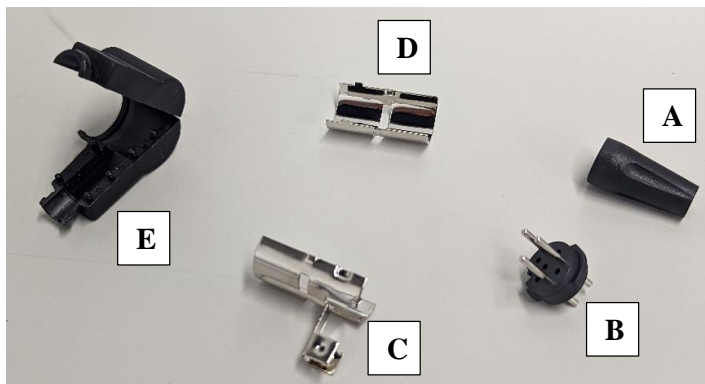
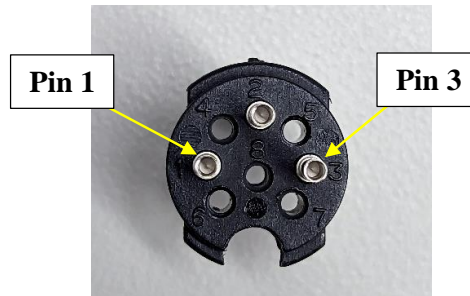

Figure 4
Figure 5 – Item B
- 1.3.3. Disassemble the 3 Pin Inline DIN connector (10549-0001-01) as shown in figure. Place plastic strain relief (A in Figure 4) of the DIN connector over the cable of the AC adapter.
- 1.3.4. Solder the wires of the AC adapter to the 3 pin DIN (B in Figure 4 & Figure 5).
- 1.3.5. Crimp the metal strain relief (C in Figure 4) over the cable and then attach metal sleeve (D in Figure 4) to the DIN connector.
- 1.3.6. Place the plastic housing (E in Figure 4) onto the metal strain relief and sleeve. Attach plastic strain relief (A in Figure 4) over plastic housing.